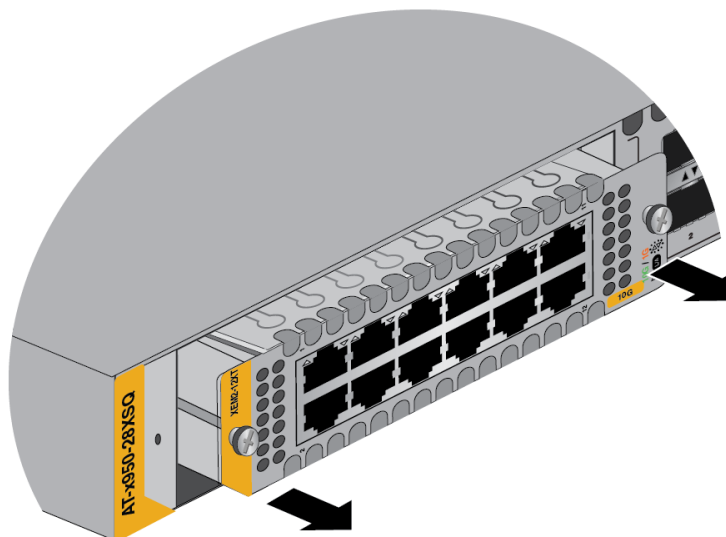

Figure 136. Disconnecting an Ethernet Line Card from the Switch
5. Carefully pull on the screws on the faceplate to disconnect the line card from the internal connector in the switch. Refer to Figure 136 on page 240.